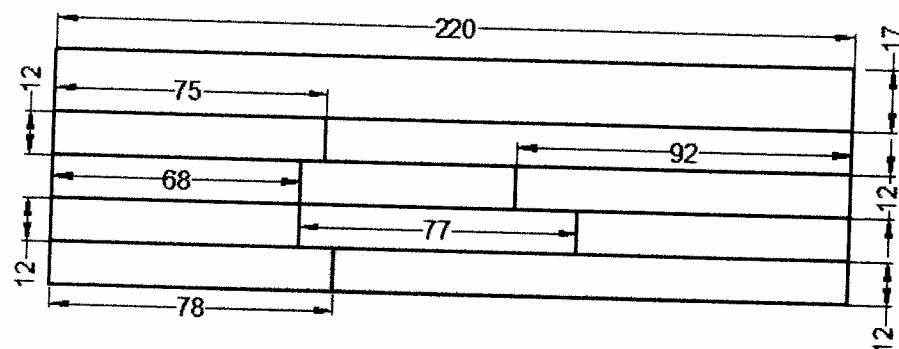

Figure 6-5a
- Use the *Line* command to create the table shown in Figure 6-5a.